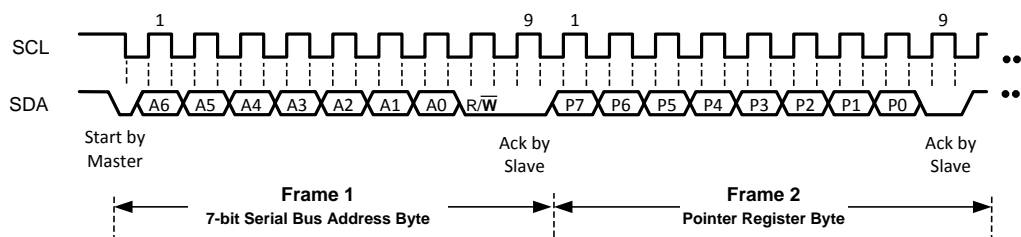

Figure 12. Trigger Humidity/Temperature Measurement
- Trigger the measurements by executing a pointer write transaction with the address pointer set to 0x00. Refer to Figure 12.
- 2. Trigger the measurement by executing a pointer write transaction. Refer to Figure 12